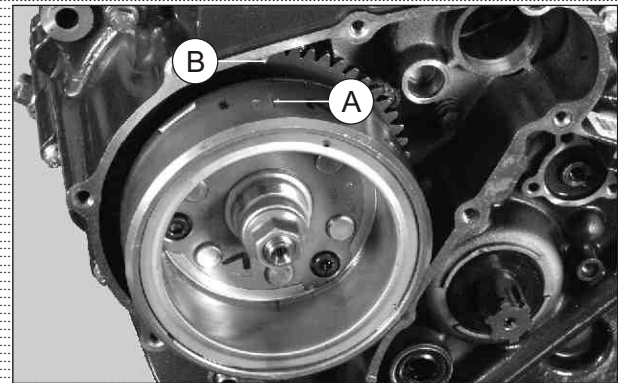

Fig. 3.71
- Align TDC mark (A) on rotor assembly with the crankcase mark (B) by rotating the rotor assembly. (Fig. 3.71)